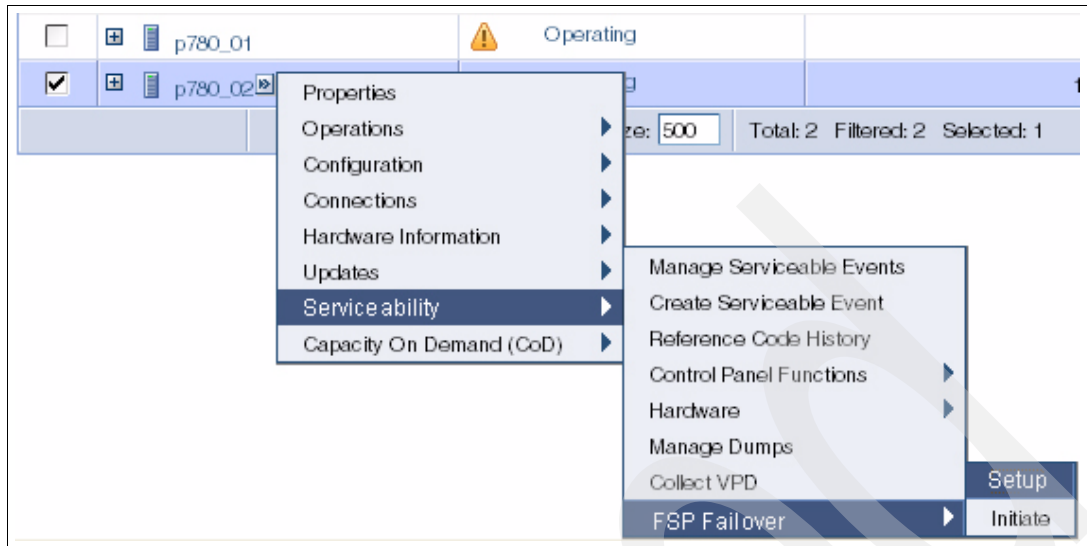

Figure 6-13 FSP Failover
- In the work pane, select the **Server** → **Serviceability** → **FSP Failover** → **Setup**. (Refer to Figure 6-13 on page 203).